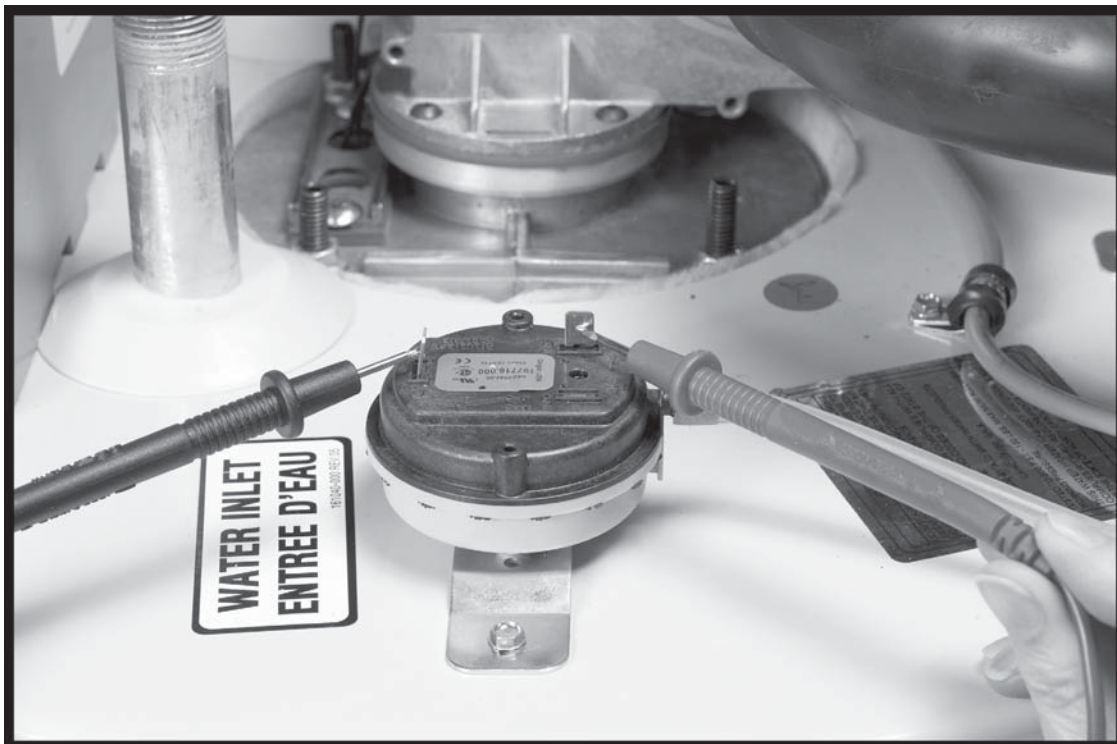

Figure 33
4. Using an ohm meter set for continuity testing, check for continuity between the two wiring terminals at each pressure switch, see Figure 33 below.
6. Using an ohm meter set for continuity testing, check for continuity between the two wiring terminals at the pressure switch after the Combustion Blower has started and ramped up to high speed during the Pre-Purge operating state, see Figure 33 on page 31. Record the results; open or closed.